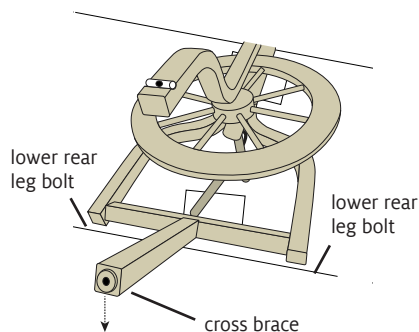

FIGURE 5: MOVE CROSS BRACE
**7.** Slightly loosen the lower rear leg bolts on both rear legs (Figure 5). Do not loosen or remove any other bolts or screws on the rear legs. Pivot the cross brace downward so it lies nearly flat.